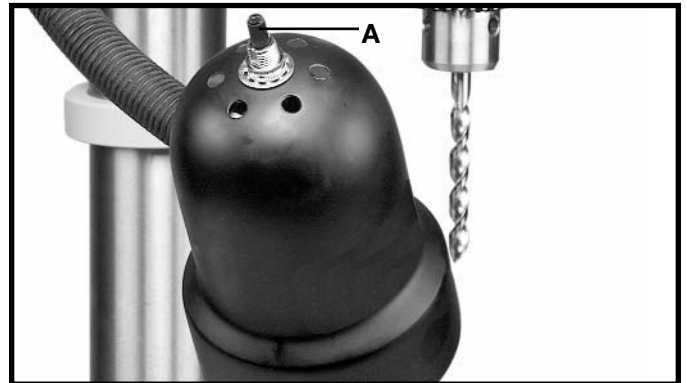

Fig. 19A
The flexible lamp operates independently of the drill press. To turn the lamp “ON” and “OFF”, rotate switch (A) Fig. 19A.